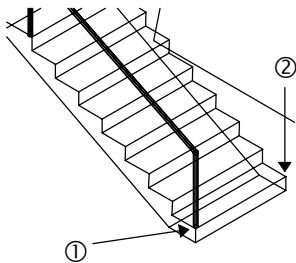

Figure 20
Set the UCS back to “world” and zoom in on the bottom tread of the stairs. Using Figure 20 as a guide, insert the block *FlightMaster*, positioning it at the outer top corner of that tread **1**, accepting the default scale factors, but picking point **2** when prompted for the rotation. *If you zoom in on the top of the flight, you will notice that the top upstand of this handrail is not positioned correctly on the first landing!* This is because of the 1:70 taper: the landing is offset by some 18 mm relative to the bottom step. The solution to this is simple: first, we will rotate this block around its insertion point to get it to the right position; then we will explode it and re-create the block in that rotated state so that we can insert it correctly on each flight. To do that, follow this procedure:
- Finally, insert that new block on the bottom flight in the same way we did before (as per Figure 20) — *is it correctly positioned this time?*